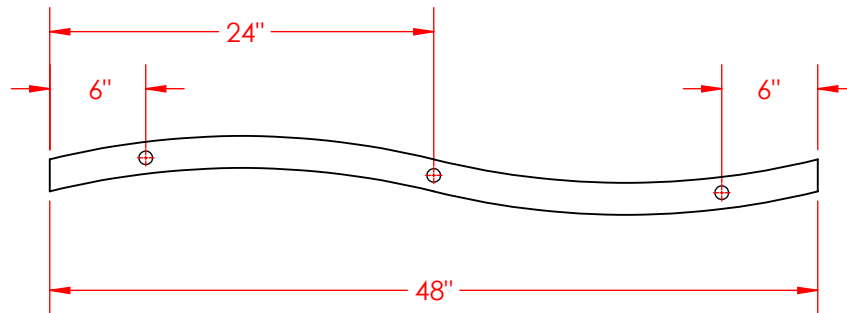

Figure 1: 48" Wave Baffle
3. Mark an even dispersion of suspension points on the wave baffle as shown in **Figure 1**.